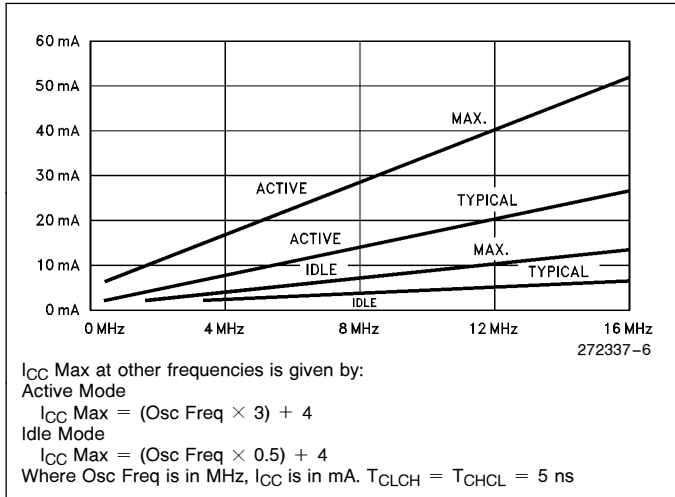

Figure 6. I_{CC} vs Frequency
- See Figures 6–10 for test conditions. Minimum V_{CC} for Power Down is 2V.